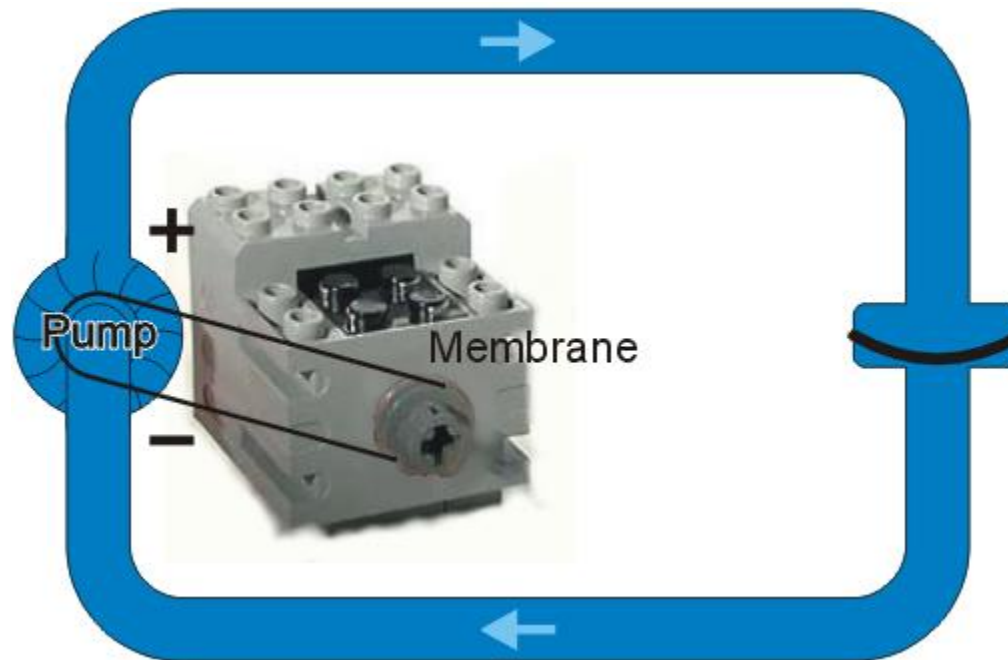

Fig 6: The membrane stretched to the point of equaling the force of the motor.
- Suppose we turn on the pump. We now have a force which begins to move the water and consequently the membrane starts to stretch as is shown **Fig.6**.